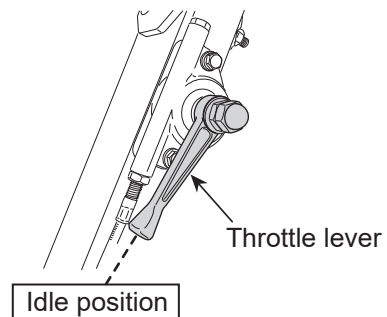

Fig. 8
- 3 Move the throttle lever to the idle position. (Fig. 8)